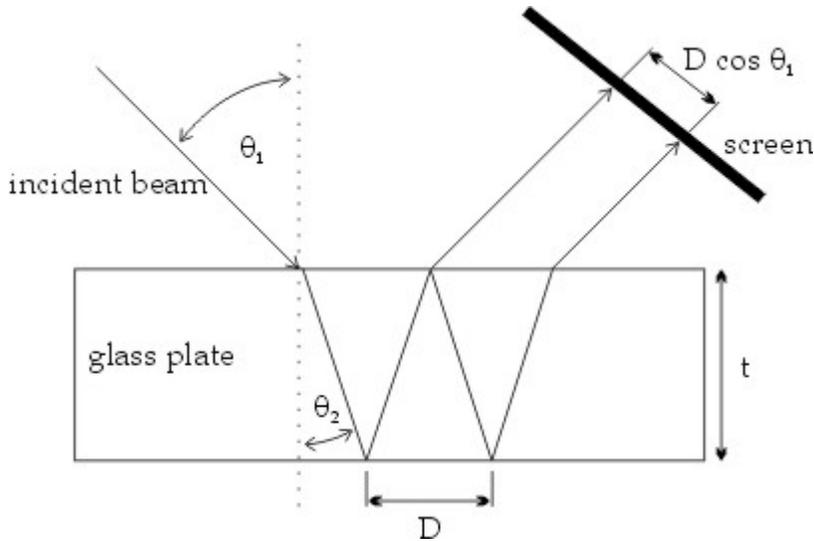

Fig. 5. Secondary reflections
i) Place the glass plate attached to the component carrier at the center of the rotating table. Place a square piece of paper about 5 centimeters on a side with a millimeter scale across the middle between the glass plate and the component carrier. Align the component carrier so the back surface of the glass plate is parallel to the scored line on the table. Place the viewing screen with the millimeter scale on the viewing arm. Turn the laser on and rotate the table to a convenient angle. You should see least two reflections on the screen as indicated in Fig. 5.
Light is refracted toward the normal when passing from air to glass. Is the same true when light propagates from glass to air? By observing the positions of the image on the viewing screen, you can see that the refraction must be away from the normal at a glass-air interface. (See Fig. 5).